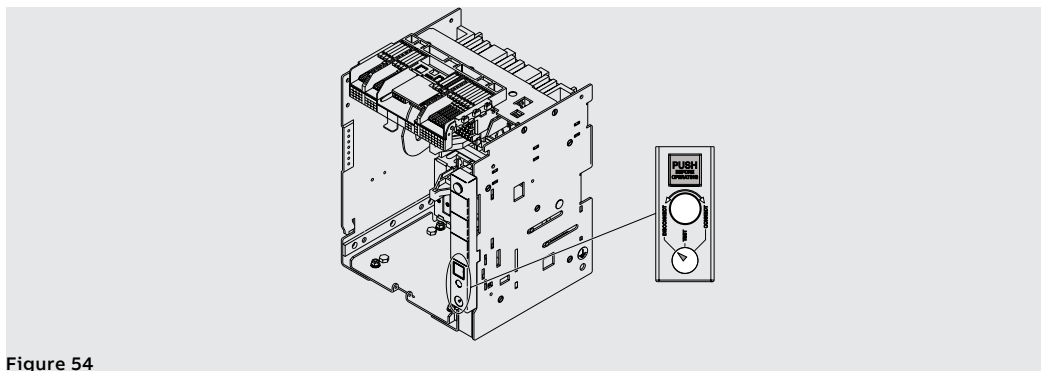

Figure 54
2. Make sure that signalling device on the fixed part indicates the **DISCONNECT** position. See Figure 54.